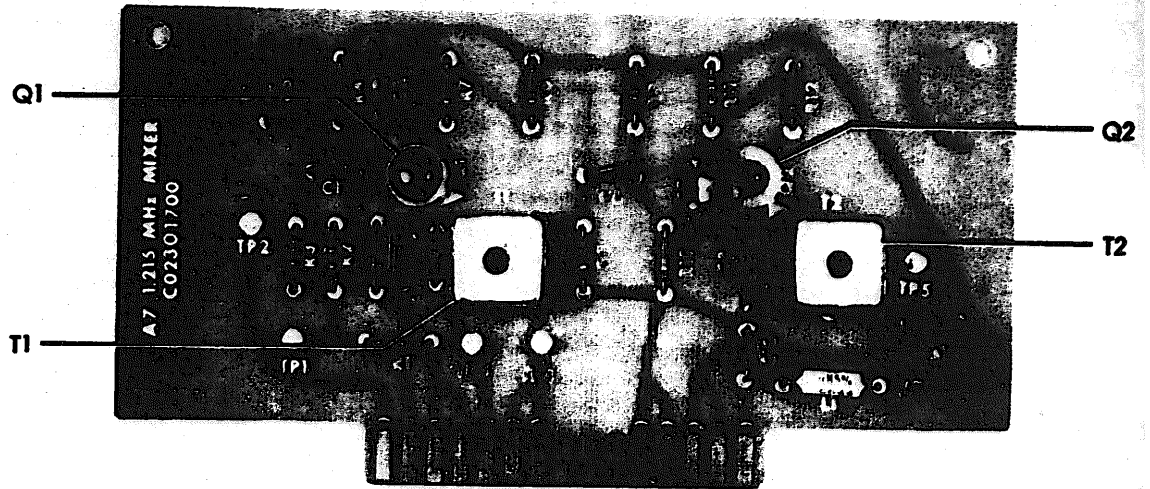

Figure 4-8. Module A7 1.215 MHz Mixer C02301700
9. 1.215 MHz Mixer module A7 (Figure 4-8)